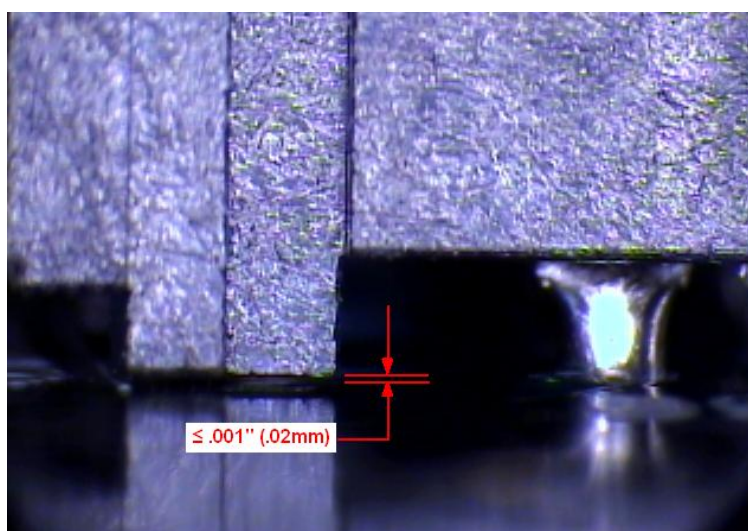

Fig. 5. The insulator housing of a reflowed SEARAY™ connector will rest on the board surface or slightly above.
- As the solder charges reflow, the weight of the connector causes it to settle so that the body rests on or slightly above the board after processing. This phenomenon is why the upper coplanarity specification of .009" (.22mm) is acceptable for the SEARAY™ connector family (see **Fig. 5** below).